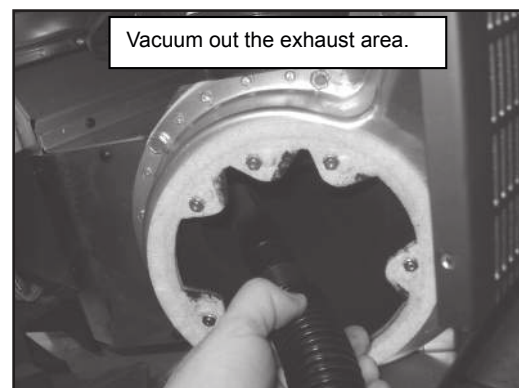

Figure 24.5
4. Vacuum out the exhaust area. **Figure 24.5.**